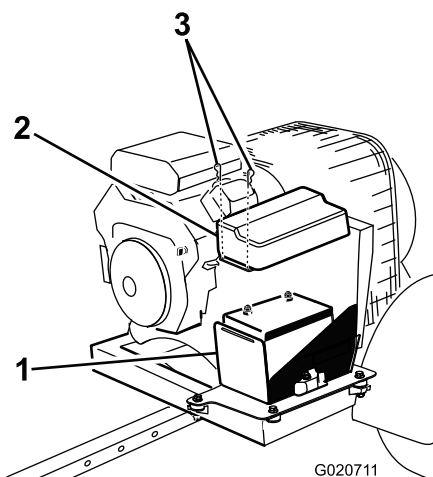

Figure 3
1. Remove the clips securing the battery cover to the battery box and remove the cover from the box (Figure 3).